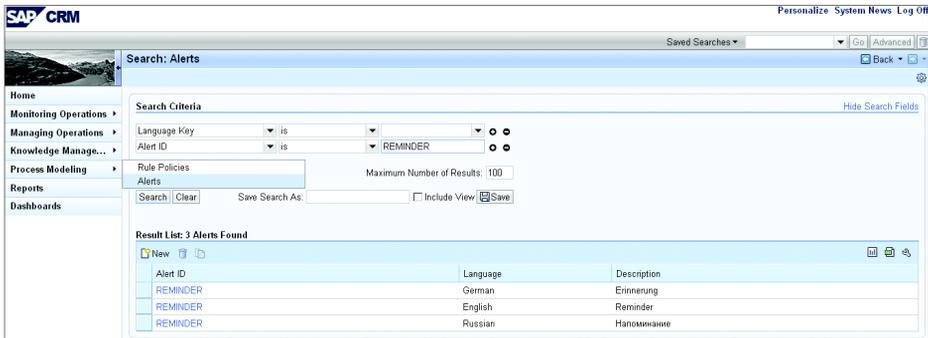

Figure 4.122 Maintaining Alerts via the IC_MANAGER Business Role
1. Log in to the IC_MANAGER business role. Follow the menu path, PROCESS MODELING • ALERTS (see Figure 4.122). There are SAP-delivered alerts; however, in cases where you have some specific business scenario, you can configure it accordingly.